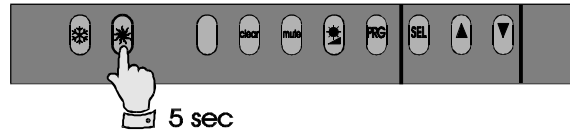

Figure 24
- Press the button as shown in figure 24.